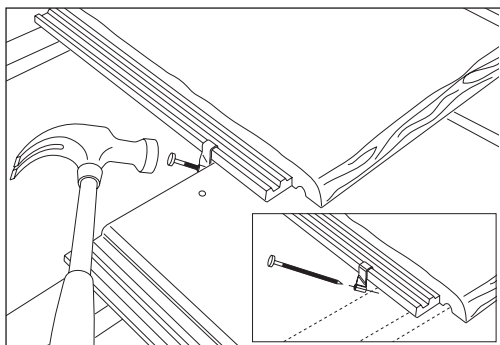

Fig 90 – Nailing clips to batten slate
- Care is required to ensure that nails are not overdriven. Nails should be tapped rather than driven home (Fig 90).